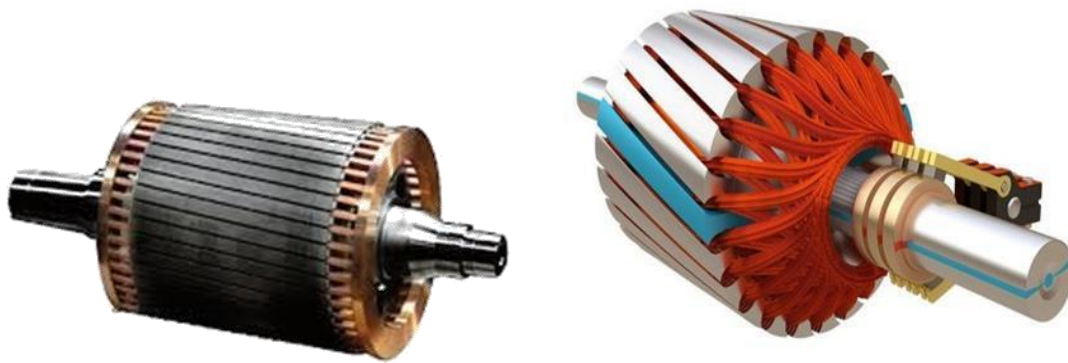

Figure 3 (A) Squirrel Cage Rotor Type
The squirrel cage rotor is made up of several thin electrical steel lamination (0.5mm) with evenly spaced bars , which are made up of aluminum or copper , along the periphery .In the most popular type of rotor (squirrel cage rotor), +these bars are connected at ends mechanically and electrically by the use of end rings as in Figure 3 (A). Almost 90 % of induction motors have squirrel cage rotors. The rotor slots are not exactly parallel to the shaft. Instead, they are given a **skew** for two main reasons, **firstly** to make the motor run quietly by reducing magnetic hum and to decrease slot harmonics, **secondly** to help reducing the locking tendency of the rotor (the rotor teeth tend to remain locked under the stator teeth due to direct magnetic attraction between the two). The rotor is mounted on the shaft using bearings on both ends.
The wound rotor has a set of windings on the rotor slots which are not short circuited, but they are terminated to a set of slip rings. These are helpful in adding external resistors and contactors, as in Figure 3 (B). The typical squirrel cage rotor circuit is shown in figure 4 (A), while the typical wound rotor circuit with an external rotor resistor circuit is shown in figure 4 (B).